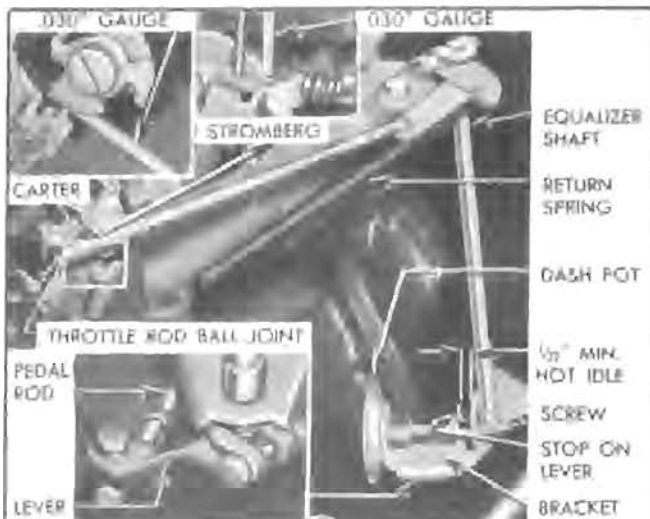

Figure 3-9—Throttle Linkage and Dash Pot Adjustment
1. With engine hot and idling at 450 RPM, check clearance between the stop on lever at lower end of equalizer shaft and the shaft lower bracket. See figure 3-9. If clearance is less than
2. With engine shut off, check for full opening of throttle valve when accelerator pedal hits the floor mat, which must be in place. Full opening should be obtained when pedal strikes floor mat, rather than having the stop on throttle lever strike hard against the boss on throttle body. Adjust *accelerator pedal rod* at ball joint, if necessary to obtain full opening of throttle valve. Tighten lock nut. See figure 3-9.
4. Hold choke valve closed, insert a .030" feeler gauge between the adjustment or stop screw and the fast idle cam, then turn adjusting screw on dash pot operating lever until it just contacts the dash pot plunger button. See figure 3-9. *This gives a starting setting which may require slight alteration to obtain proper dash pot control.*